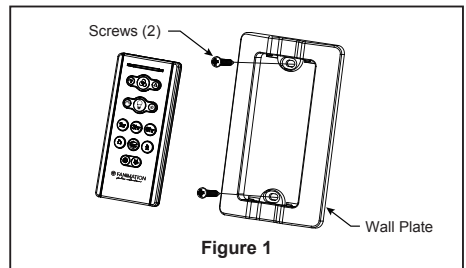

Figure 1
1. Installing Wall Plate: (Figure 1)